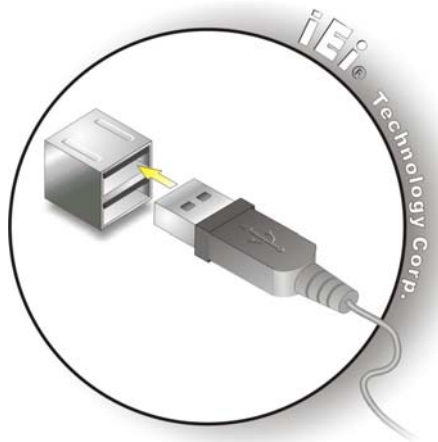

Figure 2-7: USB Device Connection
Step 2: Align the connectors. Align the USB device connector with one of the connectors on the bottom panel. See Figure 2-7.